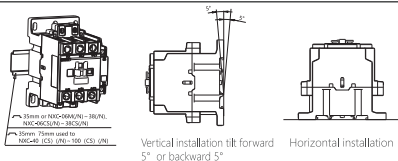

Fig.8 Product installation diagram
4.1 Suggestions on assembly of product accessories are shown in Fig.7-1~7-8; The installation diagram of the product is shown in Figure 8.